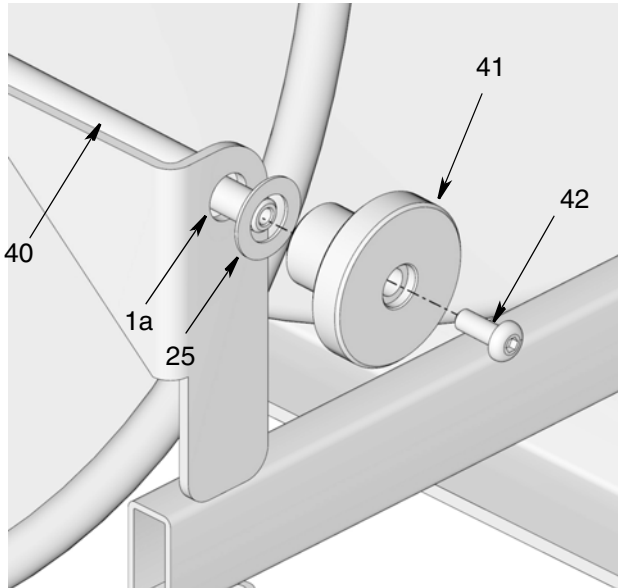

FIG. 49
- d. Feed end of rod (40) through hole (1a) (FIG. 49).
- e. Install washer (25) and knob (41) over end of rod (40). Install screw (42). Tighten screw securely to hold knob in place (FIG. 49). Torque screw to 35 - 45 in. lbs (3.95 - 5.08 N.m).